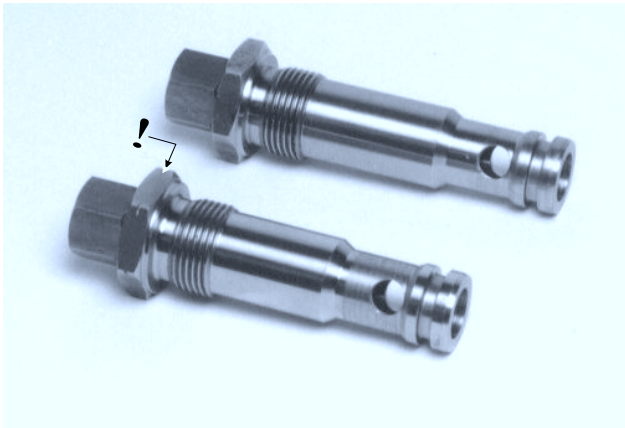

Fig.48: Oil pressure regulators
1. The control pressure regulator (equipped with a groove in the hexagon nut, see lower regulator in Figure 48, Page 29) fitted in the right-hand side of the pump can be taken out with a ring spanner or socket spanner 41, provided that the oil discharge filter has been removed.